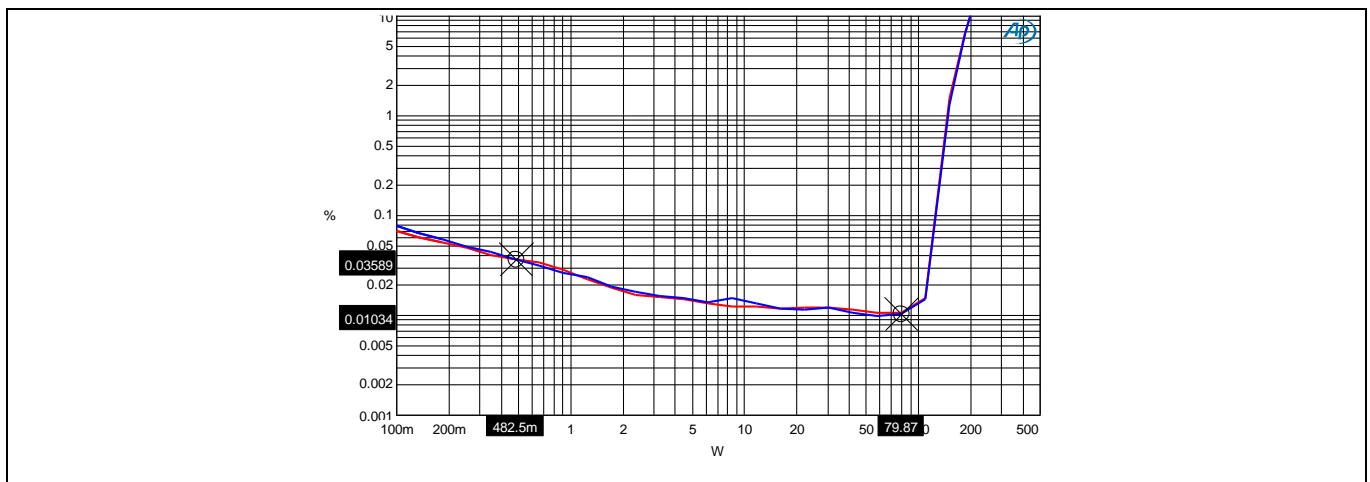

Figure 5 Power vs. THD+N $4\ \Omega$ load
8. Run the AP test as shown in Figures 5 to 12, below.